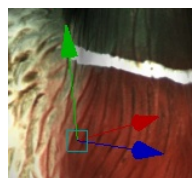

Figure 8.6.: Translation control
- Freely translate the object in the *3D View* window by dragging the control square. Or translate the object along a specific axis by dragging only the necessary control arrow near the control square (see Figure 8.6.).